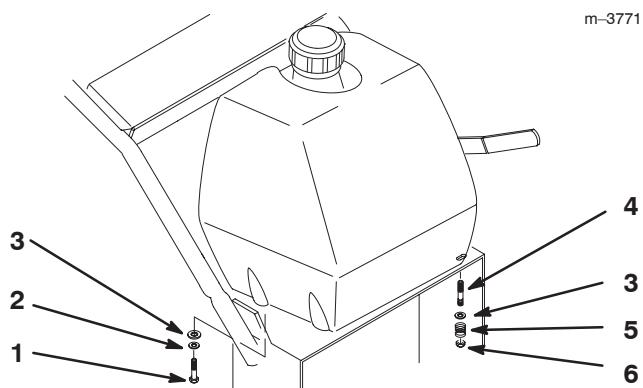

Figure 13
- Align fuel tank with the top of the rear frame (Fig. 13).
- Secure the right side of the fuel tank to the rear frame with 2 bolts (5/16 x 7/8 inch), lock washers (5/16 inch) and washers (5/16 inch) (Fig. 13).
- Secure the left side of the fuel tank to the rear frame with 2 studs, washers (5/16 inch), springs and locknuts (5/16 inch) (Fig. 13).